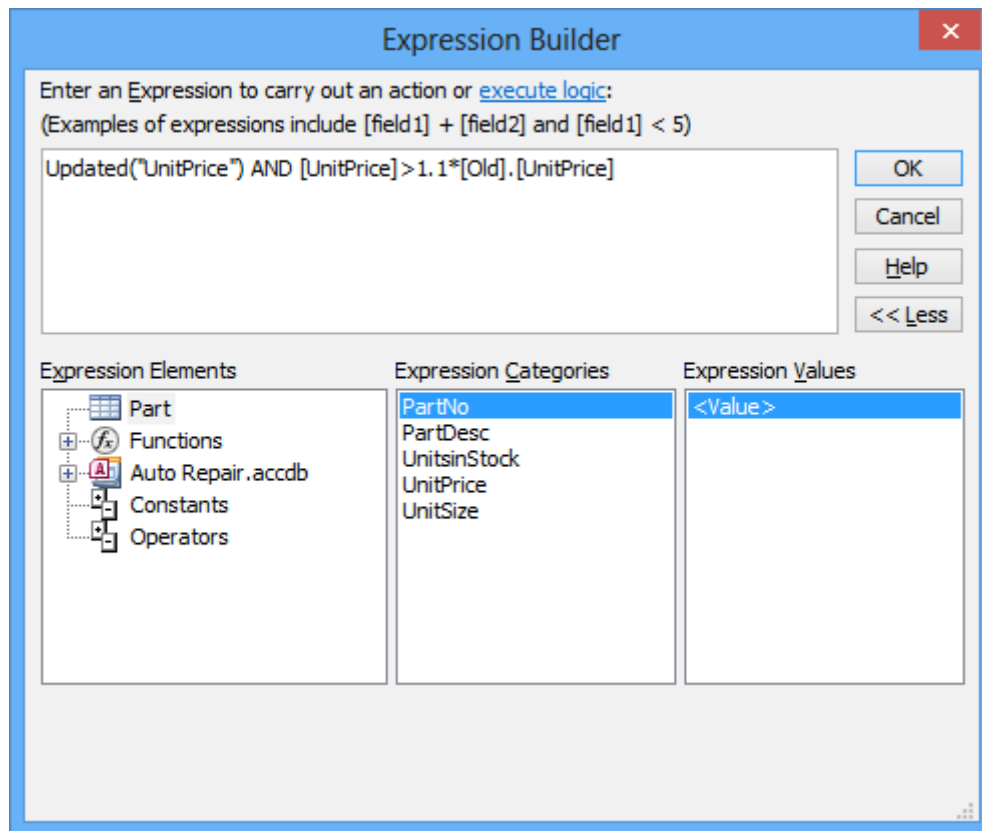

Figure 49: Expression Builder Window with Conditional Expression
4. Specify Conditional Expression: Invoke the Expression Builder () to specify the conditional expression part of the *If* action. You can select the *Updated* function in the built-in functions and the *UnitPrice* column from the Expression Categories list for the *Part* table. The *Updated* function restricts the condition to update operations for the specified column. The *Old* function retrieves the value of the column prior to the update. Figure 49 shows the Expression Builder window with the text below.